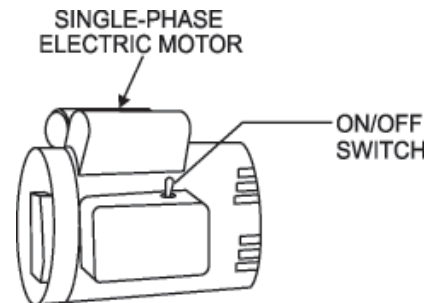

Figure 10. Main ON/OFF Switch
- Set the electric motor's ON/OFF switch (Figure 10) to the **ON** position.
- Place the electric motor's **start/stop** switch (Figure 10) in the **OFF** position.